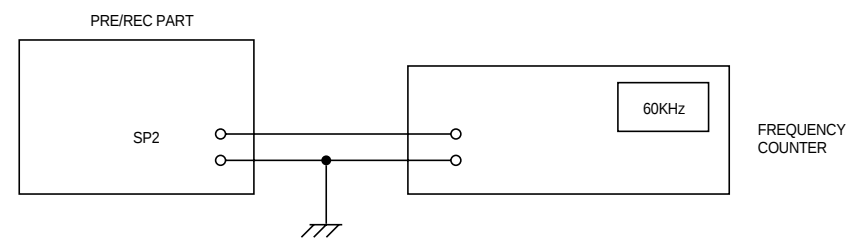

Fig.1-8 Recording bias adjustment
- 1) Connect frequency counter to KC433 (See Fig.1-8) and press the Record button.